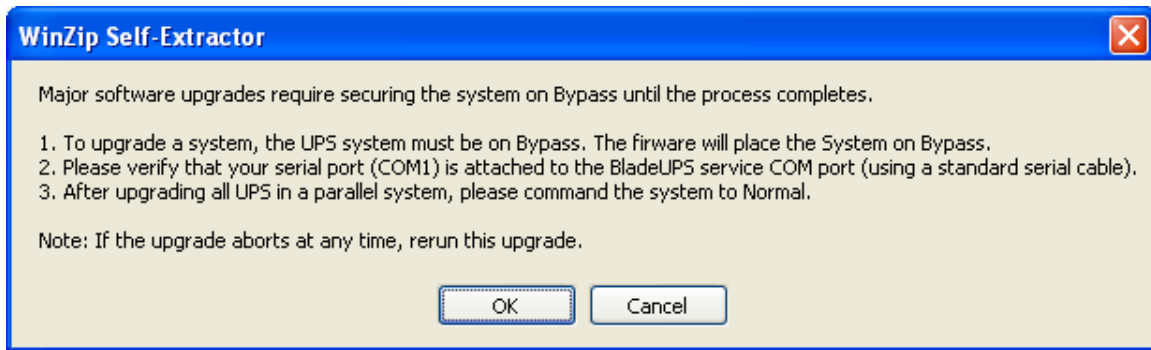
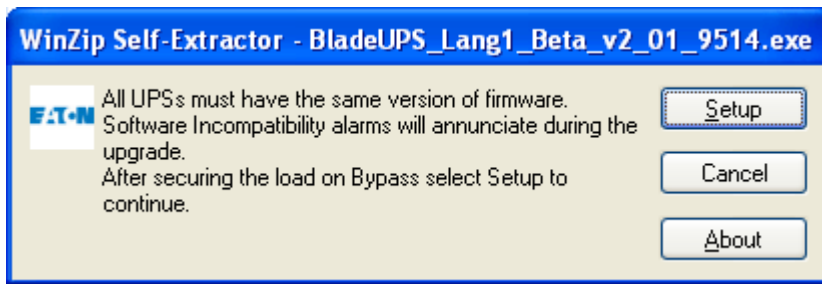

Figure 1 (Instructions Dialog Box)
Figure 2 (Start upgrade Dialog Box)
5. Double click the executable file from Windows Explorer to start the upgrade. If the flash process fails, restart the program by double clicking the batch file again. Figure 1 represents the dialog box presented when the program is run. Select the OK button. Figure 2 represents the dialog that reminds you that parallel systems must all have the same firmware version. Select the Setup button.